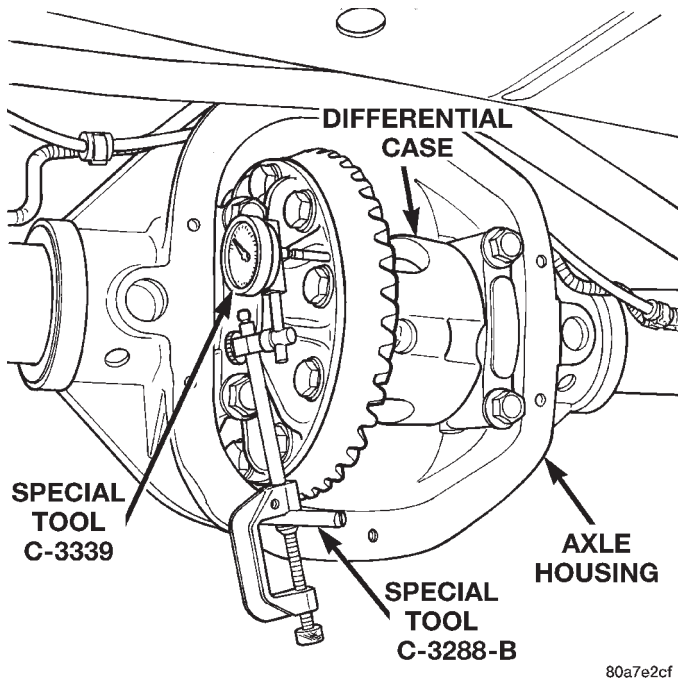

Fig. 86 Differential Side play Measurement
- (8) Thread guide stud C-3288-B into rear cover bolt hole below ring gear (Fig. 86).
- (9) Attach dial indicator C-3339 to guide stud. Position the dial indicator plunger on a flat surface on a ring gear bolt head (Fig. 86).
- (17) Remove differential case, dummy bearings, and starting point shims from axle housing.
- (18) Install pinion gear in axle housing. Install the yoke and establish the correct pinion rotating torque.
- (19) Install differential case and dummy bearings in axle housing (without shims) and tighten retaining cap bolts.
- (20) Position the dial indicator plunger on a flat surface between the ring gear bolt heads (Fig. 86).
- (21) Push and hold differential case toward pinion gear.
- (22) Zero dial indicator face to pointer.
- (23) Push and hold differential case to ring gear side of the axle housing.
- (24) Record dial indicator reading.
- (25) Subtract 0.003 in. (0.076 mm) from the dial indicator reading to compensate for backlash between ring and pinion gears. This total is the thickness of shim required to achieve proper backlash.
- (26) Subtract the backlash shim thickness from the total preload shim thickness. The remainder is the shim thickness required on the pinion side of the axle housing.
- (27) Rotate dial indicator out of the way on guide stud.
- (28) Remove differential case and dummy bearings from axle housing.
- (29) Install new side bearing cones and cups on differential case.
- (30) Install spreader W-129-B, utilizing some components of Adapter Set 6987, on axle housing and spread axle opening enough to receive differential case.